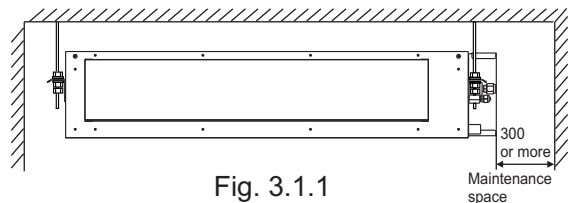
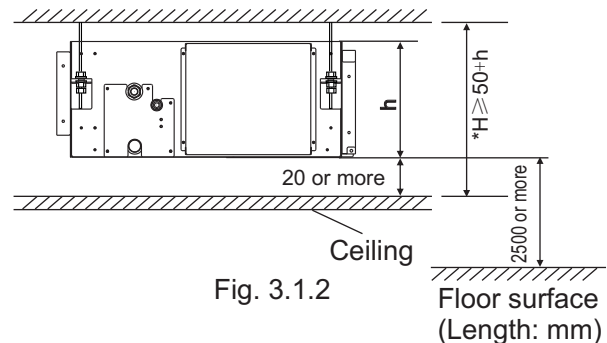

Fig. 3.1.1
Fig. 3.1.2
- Sufficient clearance for maintenance and servicing is ensured. (See Fig.3.1.1, Fig.3.1.2)